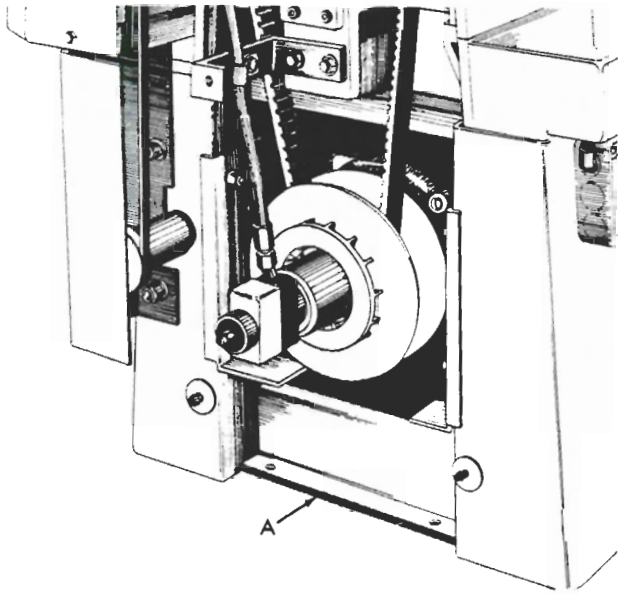

Figure 2
1. Remove lower guard to expose the holes in rear mounting flange (A, fig. 2).